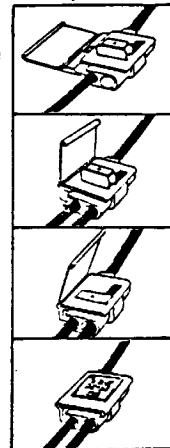

Fig. 2
1. Remove SW 1 N.O. Terminal from (A) (Jumper) and put in SW 3 N.O. at (B).
2. Kit would have 132" wire which has relay socket terminal on one end, insert this terminal in relay socket at (C) (common of SW 3).
4. Find wire B44 (6 Prod) or J44 (5 Prod) which runs from N.O. of #1 Bypass SW to N.C. of #1 Vend Motor SW. Put #44 Wire in run channel of tap connector and unstripped end of 132" wire in hole in tap connector. See Instructions. Fig. 2.